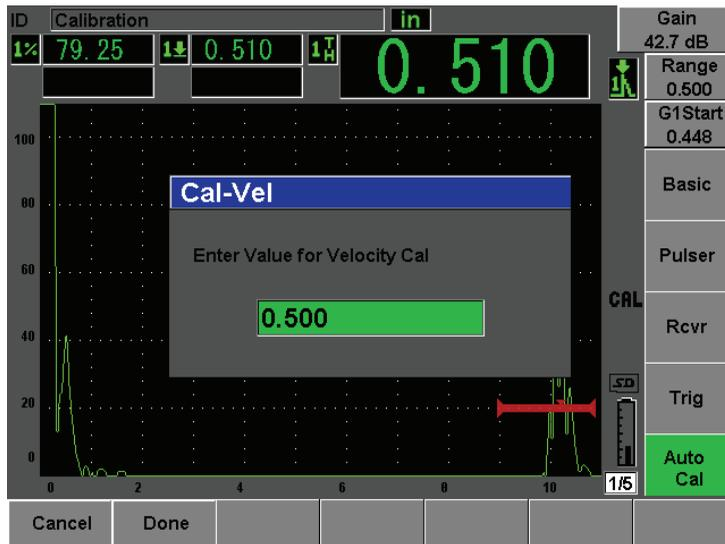

Figure 10-9 Entering the Velocity Cal thickness value
16. In the **Cal-Vel** box, adjust the value to match the known thickness of the gated indication (0.500 in. in this example), and then choose **Done** to complete the calibration process (see Figure 10-9 on page 163).